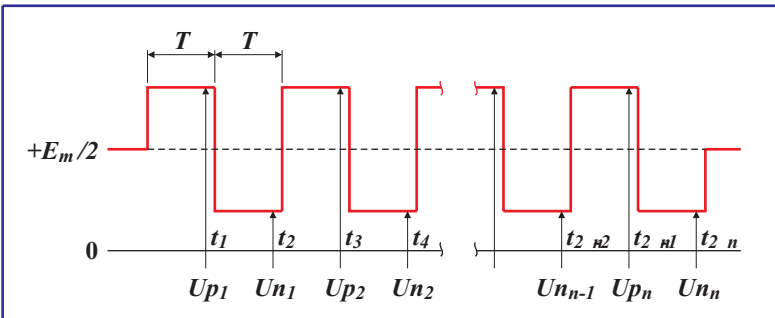

Fig. 4.3. Output signals of Instrumentation Amplifier at AC resistance measuring
In the no input signal state the output voltage of the Instrumentation Amplifier (IA) is equal to $E_m/2$, where $E_m = 4.096$ V (Fig. 4.3).
During AC resistance measuring the output voltage of the IA is sampled and measured by 12 bit ADC every time before I_m current reversing. The sampling points are marked as t_i in Fig. 4.3. The voltage drops on TE module when positive current (Up_i) and negative current (Un_i) are used for a TE module resistance (R) calculation under the following formula :